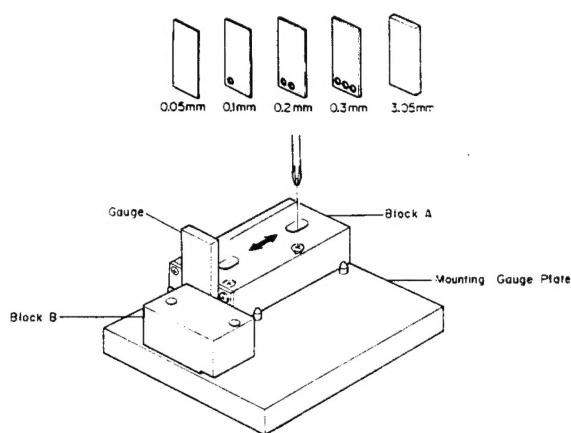
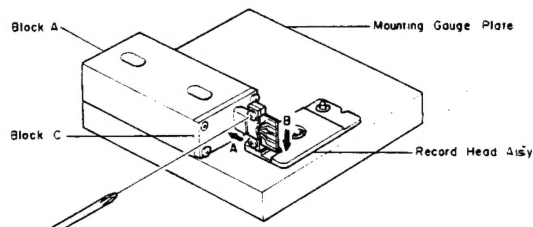

Fig. 2.16
Fig. 2.17
Refer to Figs. 2.16 and 2.17.
- (1) Check the accuracy of the record head stroke.
- (2) Remove Head Mount Base Ass'y.
- (3) Remove the record head assembly.
- (4) Adjustment of Record Head Mounting Gauge M-9048 (DA0-9048A)
- (c) As shown in Fig. 2.16, hold the Gauges (3.05 mm and 0.1 mm thickness) between the Block A and Block B, and fix the Block A with screws, pushing the Block A to the 2 guide pins.
- (5) Remove the Block B from the Mounting Gauge Plate.
- (6) As shown in Fig. 2.17, mount the R-8L record head assembly onto the Mounting Gauge Plate, then check the location of the R-8L record head surface. (If record head touches the Block C, loosen 2 pcs. of screws that assemble record head and record head plate, then place the R-8L record head assembly onto the Plate.)
- (7) Remove the R-8L record head assembly from the Mounting Gauge Plate.
- (8) Readjustment of Record Head Mounting Gauge M-9048 (DA09048A)
- (c) As shown in Fig. 2.16, hold the Gauges (3.05 mm and either one of 0.05, 0.15, 0.2, 0.25, 0.3 or 0.35 mm thickness) between the Block A and Block B, and fix the Block A with screws, pushing the Block A to the 2 guide pins.
- (9) Remove the Block B from the Mounting Gauge Plate.
- (10) Mount the R-8L record head assembly onto the Mounting Gauge Plate.
- (11) As shown in Fig. 2.17, loosen 2 pcs. of screws that assemble record head and record head plate.